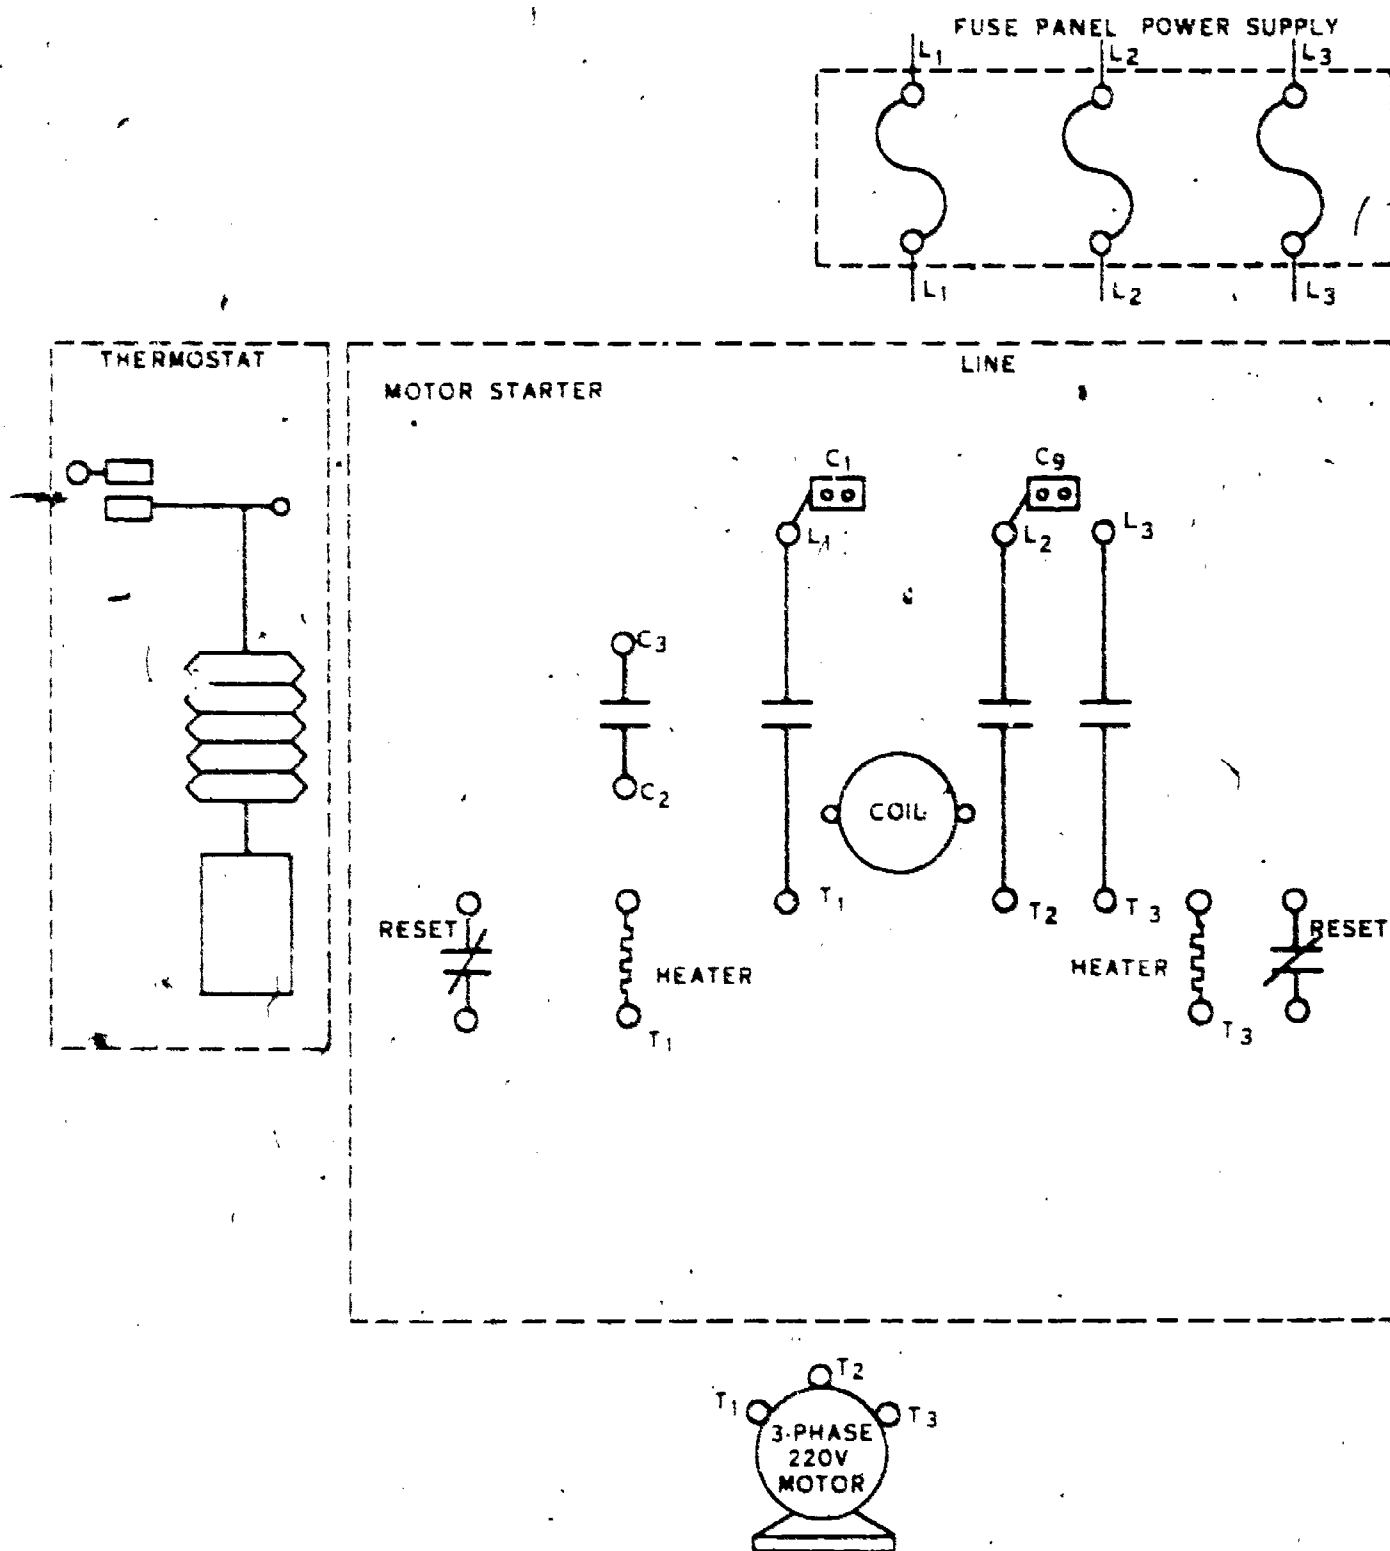

Figure 17. Three-Phase Across-the-Line Motor Starter
2. Using your red and blue pencil, in figure 17, draw in the control circuit in blue and the load circuit in red.